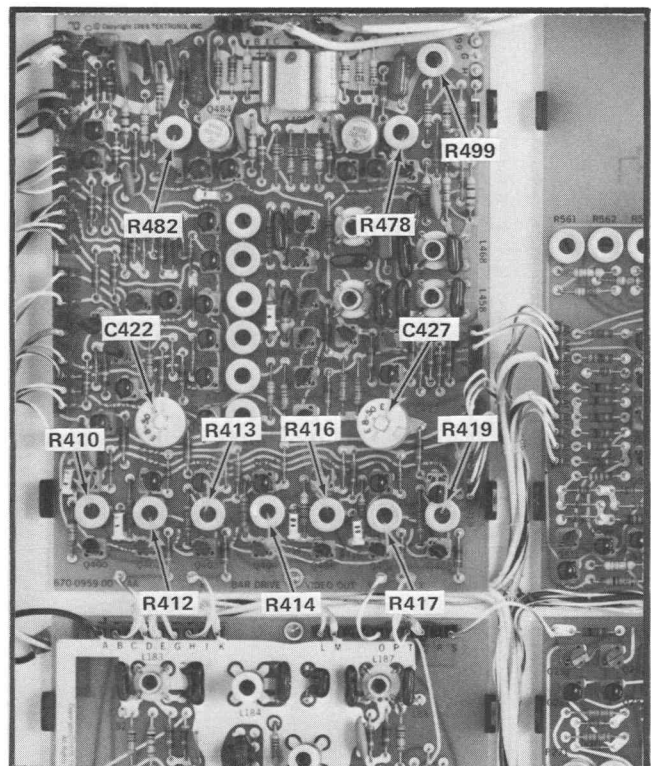

Fig. 6-10. Bar Drive and Video Out board adjustment locations.
- ADJUST—C422 and C427 (see Fig. 6-10) for minimum 3.58 MHz aberration following just after burst.
- e. Set both the V1 and V2 Volts controls for 286 mV (572 mV); ADJUST—R482, (see Fig. 6-10) until the upper and lower envelopes just meet.
d. Set both the V1 and V2 Volts controls for 47.8 mV (95.6 mV). ADJUST—R410 (see Fig. 6-10) until the peaks of the blue envelope just meet.